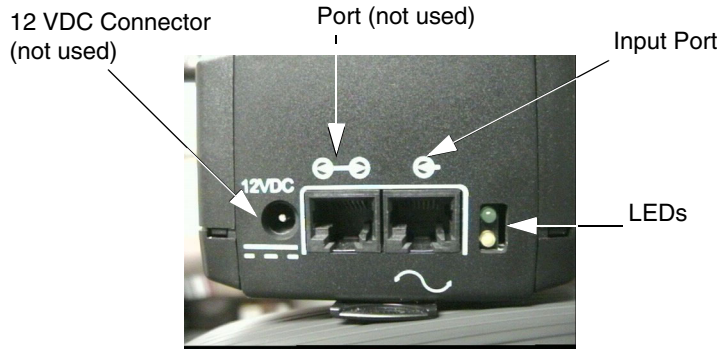

Figure 4-7. V.35/RS-449/RS-530 Network Interface Module (Peripheral Side)
2. Connect the peripheral side of the network interface module to the system. Refer to Figure 4-7.